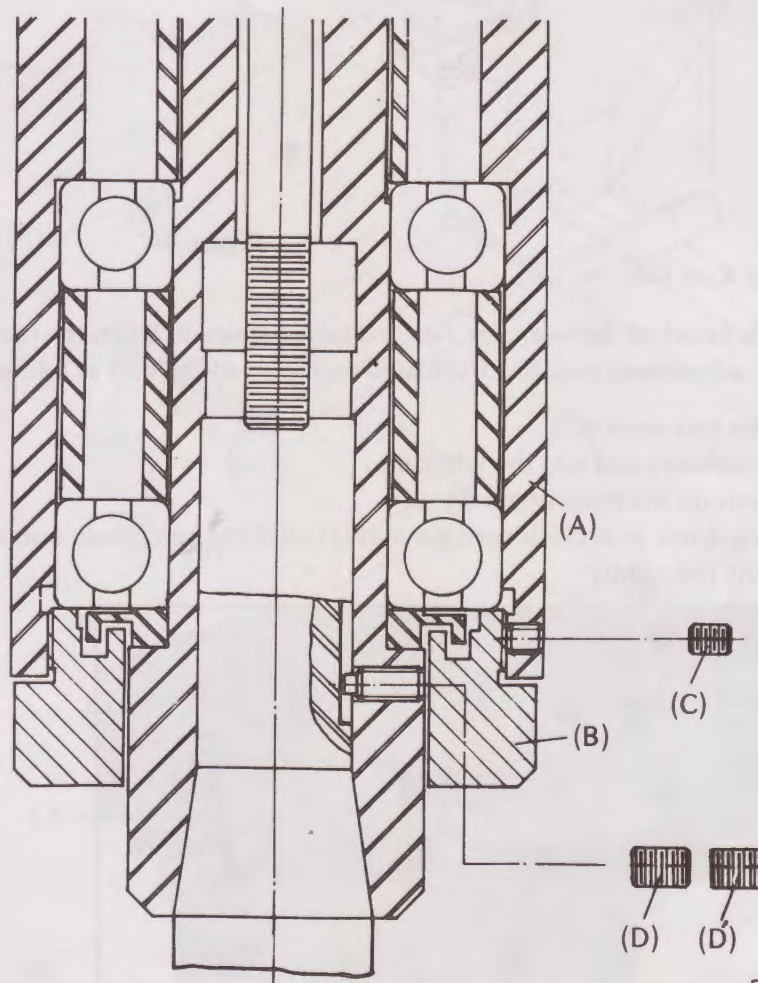

Figure 36
(5) Replacement of Collet Aligning Screw (Vide Figure 36): (Available for R8 spindle only)
- a. Prior to replacement, use a marking pencil to draw a line on quill (A) and its nose piece (B).
- b. Loosen the setting screw (C) nose piece. Use a hook spanner to take off the nose piece (B).
- c. Use a hexagonal spanner of appropriate length to take off the collet aligning screw (D) for replacement.
- d. When the collet aligning screw is replaced, set the nose piece (B) tightly until it is positioned on the marked line.
- e. Set the set screw (C) of nose piece tightly.